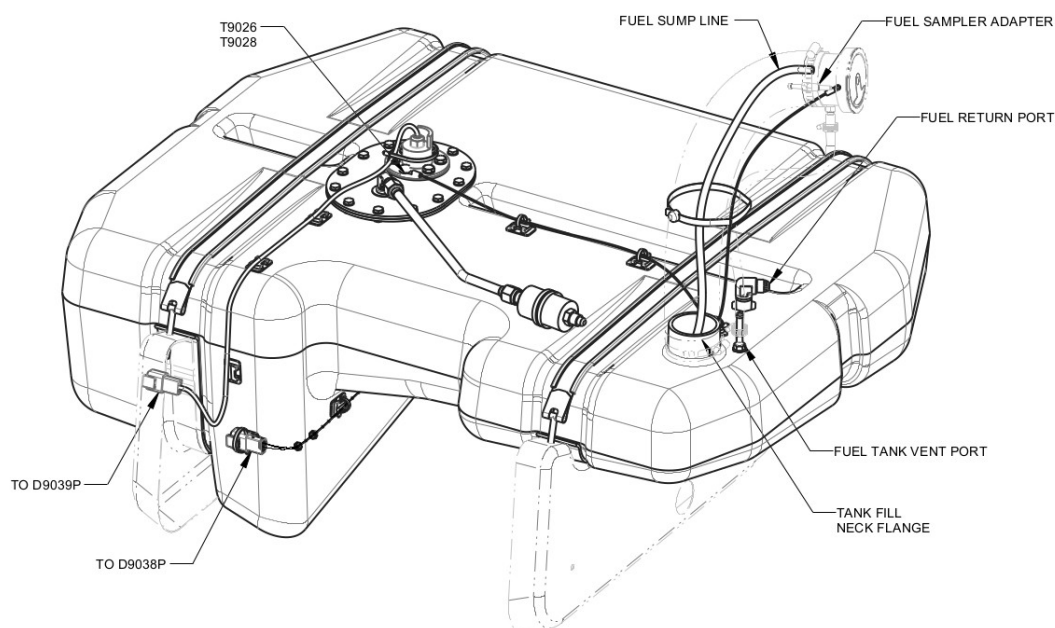

FIGURE 11-2
6. Disconnect the optical switch connector from D9038P. (See Figure 11-2.)
7. Disconnect the fuel level sensor connector from D9039P. (See Figure 11-2.)
8. Use a 7/16 wrench to remove bolt, washer, and T9028 terminal on fuel level sensor plate. (See Figure 11-2.)
16. Remove the fuel filler neck from fuel cap adapter and fuel tank opening flange to expose fuel sump hose. (See Figure 11-2.)